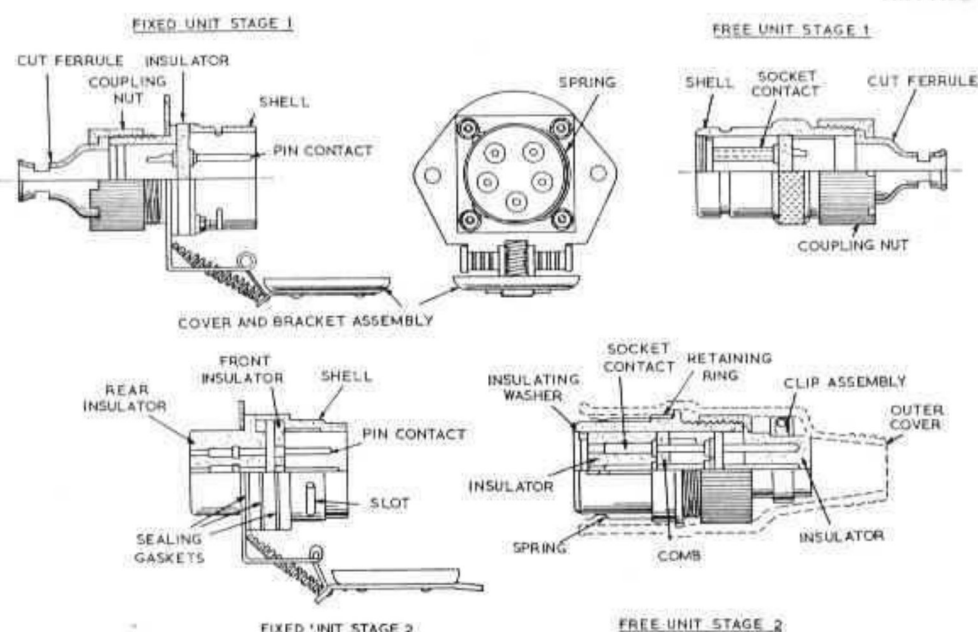

Fig. 16. Quick release fixed and free units, stages of development
34. Quick-release fixed and free units (fig. 16) with aluminium shells were introduced for use where rapid mating or demating was necessary. The free unit shell is not threaded but machined with an external circumferential groove; the fixed unit is fitted with four steel balls retained by a flat spring, a rubber band or a special retainer. Mating is effected when the four balls of the fixed unit lodge in the groove of the free unit; demating occurs quickly when the balls are dislodged on pulling the free unit away. When not in use the contacts are protected by a spring-loaded cap which fits over the front of the unit.
35. Units introduced at this stage (fig. 16) were manufactured only in steel. The quick-release principle was modified thus: four slots are machined in the fixed unit shell to accept four flat springs which are fitted to the free unit and held by a retaining ring. The insulators of both units were